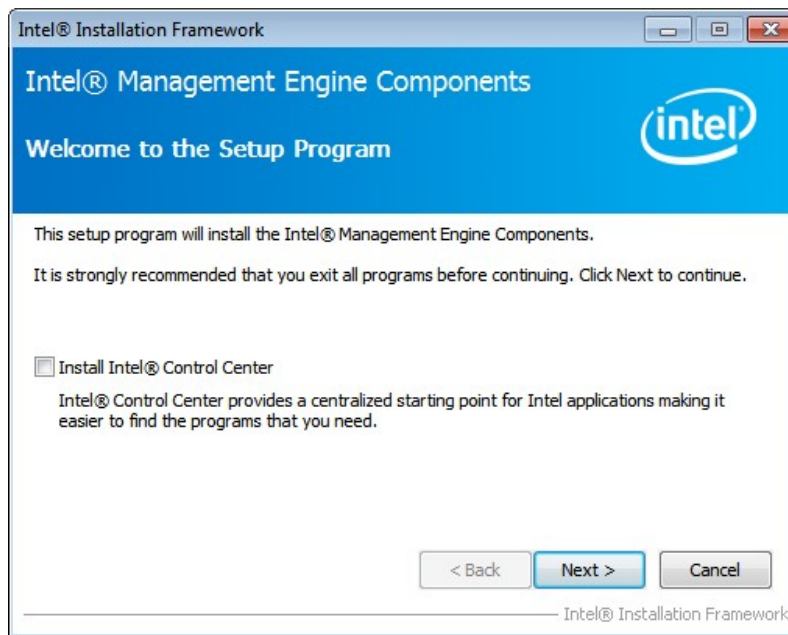

Figure 6-28: Intel® ME Driver Welcome Screen
Step 4: When the setup files are completely extracted, the **Welcome Screen** in **Figure 6-28** appears.